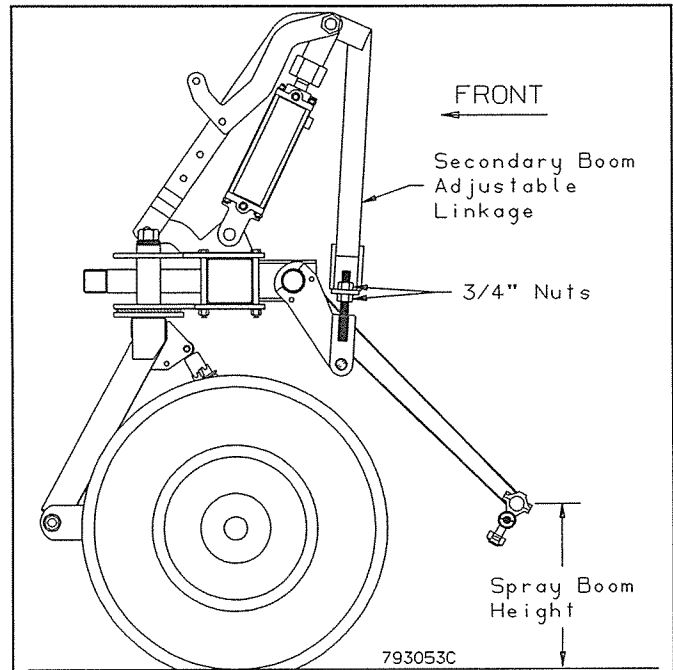

FIGURE 2.2e: Adjustable Linkage
12. Lower secondary booms, adjust hydraulic cylinder stop collars so both the left and right hydraulic cylinders are the same length. Adjust left and right spray boom height (if not equal) with secondary boom adjustable linkage on right side cylinder assembly, Figure 2.2e.